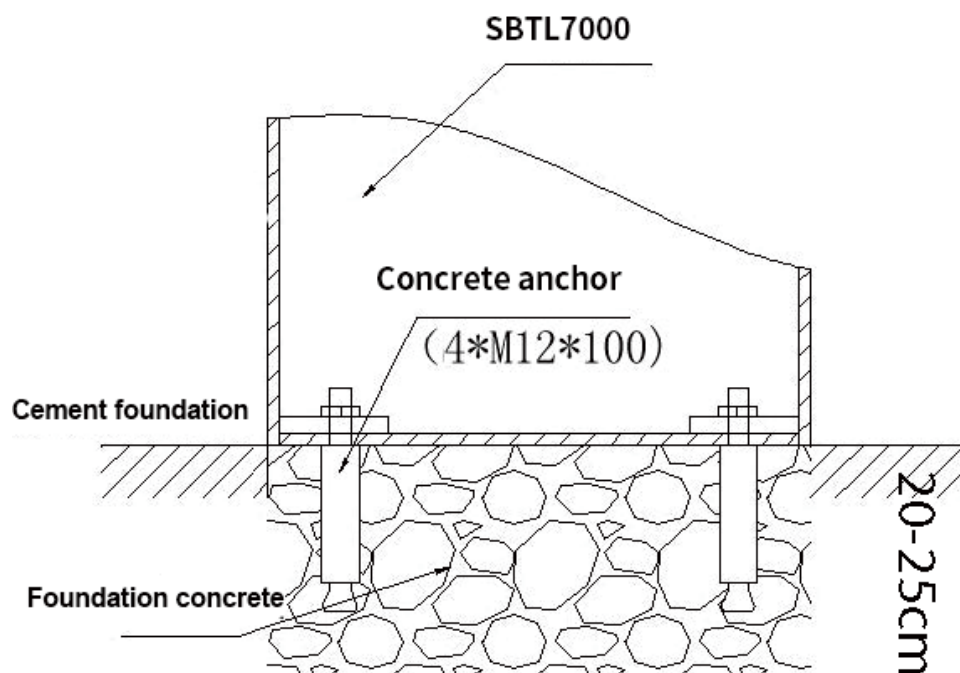

Figure 4-2
3. Drill the holes with $\Phi 14$ and embed M12 anchor screws or expansion screws. As shown on the Figure 4-2.